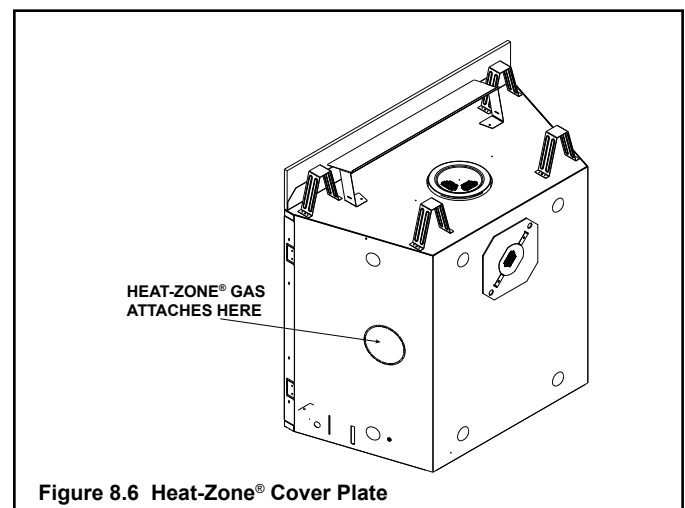

Figure 8.6 Heat-Zone® Cover Plate
- Remove the knockout from the fireplace and discard it See Figure 8.6.